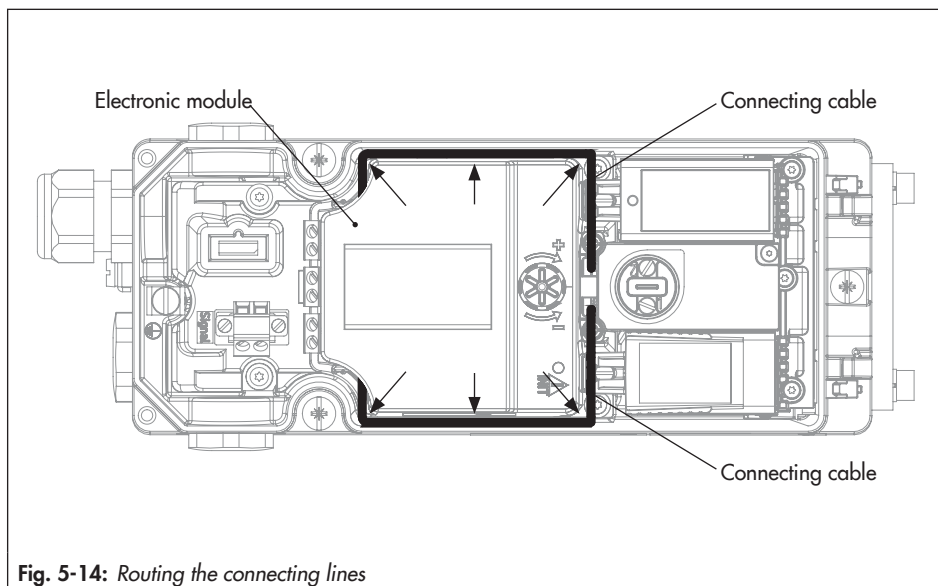

Fig. 5-14: Routing the connecting lines
4. Clamp the two connecting lines between the electronic module and the positioner housing and push them downward (as shown in Fig. 5-14). Make sure that the wires do not project out of the housing and get caught when closing the housing cover.